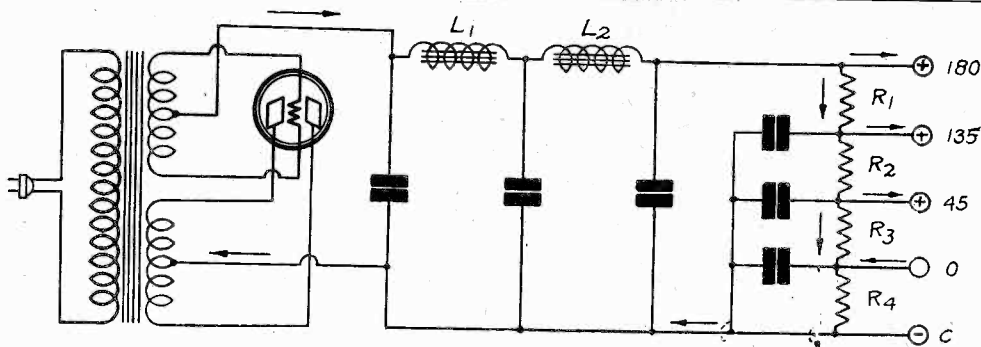

FIG. 728
(1)—The circuit is shown in Fig. 728.